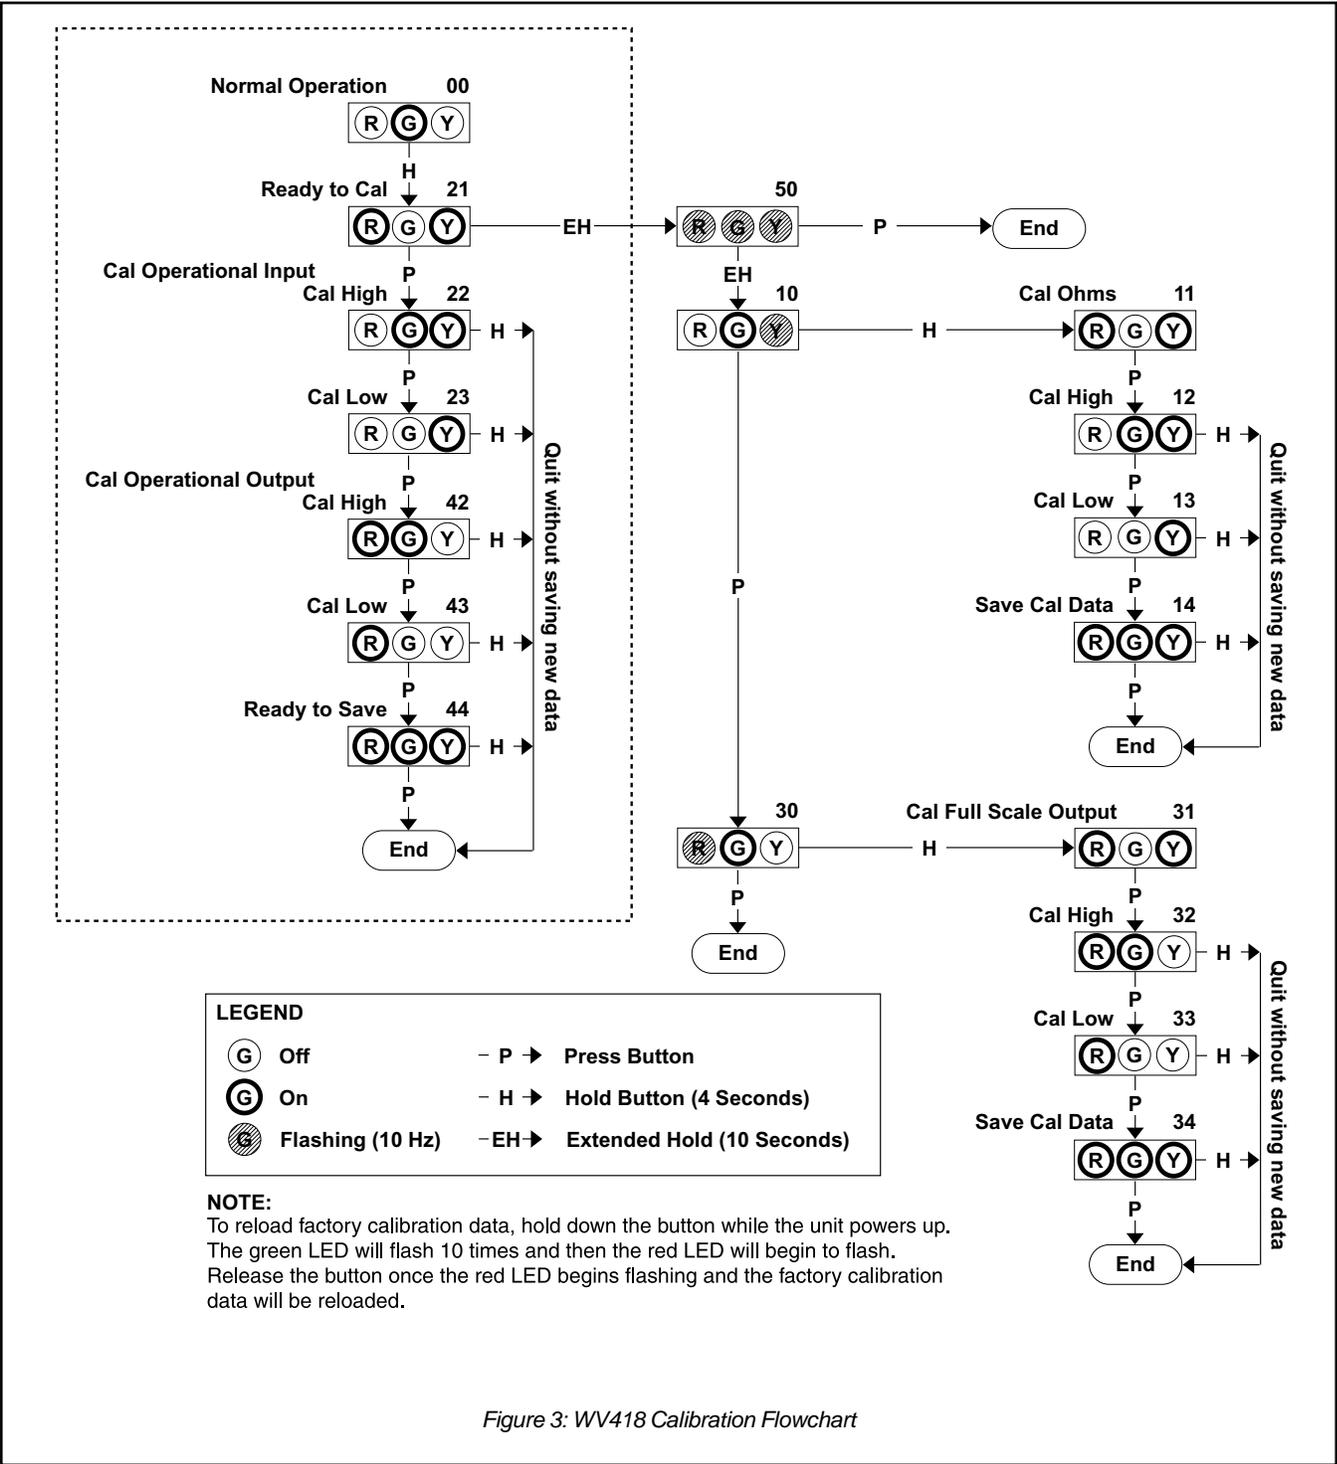

Figure 3: WV418 Calibration Flowchart
1. Connect the input to a calibrated RTD source or decade box and the output to a voltage or current meter. Apply power and allow the system to reach thermal equilibrium. Refer to Figure 3 for a detailed flow chart of the procedure. The section in the dotted-line box is all that is required for the user to calibrate operational input and output, and is all that is described in this procedure.